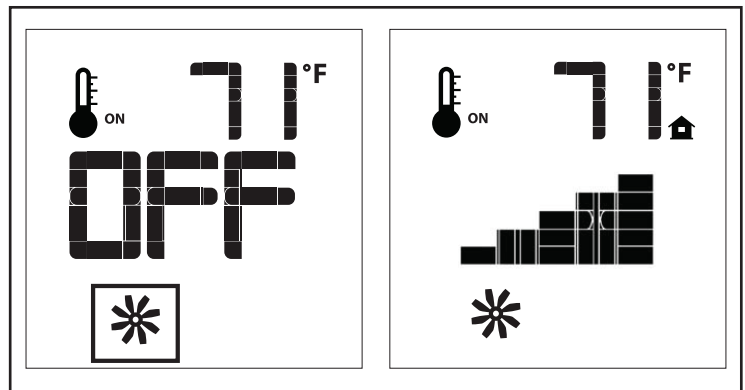
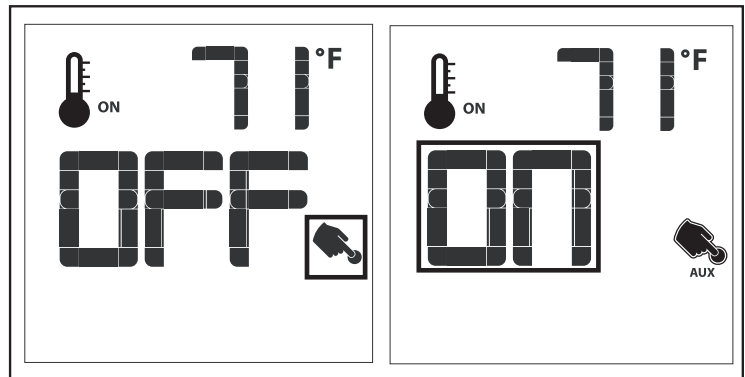

Figure 13: Fan Control
Figure 14: Auxiliary Control (not used)
The S40I comes with a convection fan that can be controlled with the Transmitter. The fan speed can be adjusted through six (6) speeds. To control the fan press the Mode key (Figure 4) to index to the fan control icon (Figure 14). Use the UP/DOWN arrow keys to turn on, off, or adjust the fan speed (Figure 13). A single beep from the IFC will confirm the command has been received